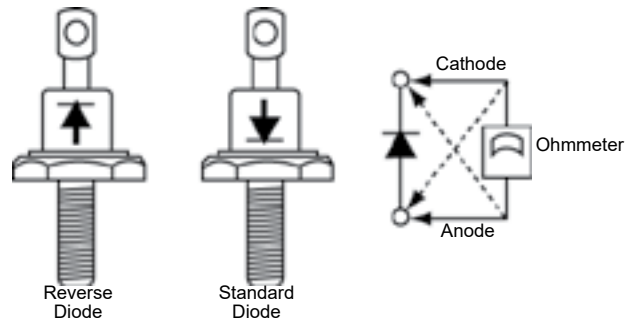

Figure 19 Test Rotating Rectifier with Ohmmeter
**Ohmmeter:** Connect the ohmmeter leads across the rectifier in one direction. See Figure 19. Note the meter reading. Reverse the leads, and note the meter reading. The meter should indicate a low resistance when the leads are across the rectifier in one direction and a high resistance when the leads are across the rectifier in the opposite